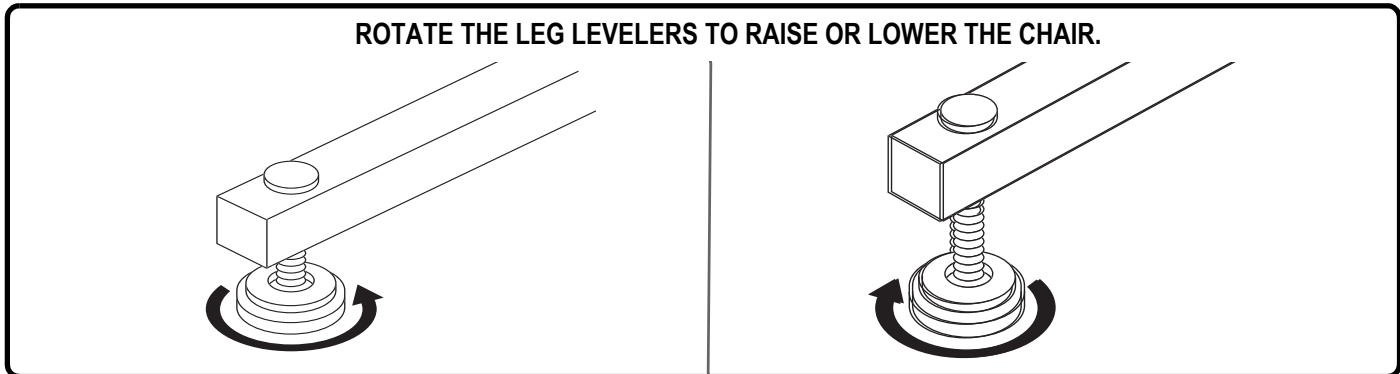

Figure 3.2 Leg Levelers
**Leg Levelers:** Manually rotate up or down in order to stabilise the chair before use (Fig. 3.2).
2. Adjust the leg levelers to stabilise the lift chair (Fig. 3.2).